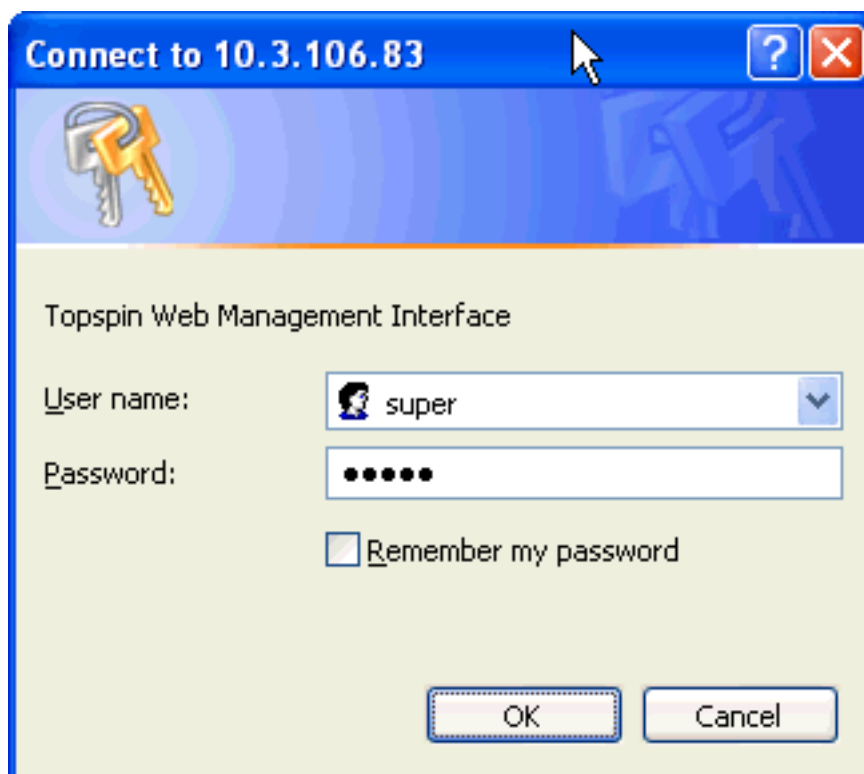

Figure 1-13: Chassis Manager Log-In Window
2. Type the IP address of your Server Switch in the address field of your browser and press **Enter**. (You configured the IP address in Step 4.) A log-in window opens. Figure 1-13 displays the log-in window.